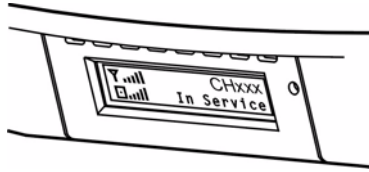

Figure 3.5: Displayed Signal Strength
3. Hold the CU in the position it is to be mounted. In an ideal application, the display on the CU will show 5 bars. If the display is not showing 5 bars and there are alternate possible mounting locations, move the CU to the alternate locations and check the display. Place the CU in the location showing maximum number of bars (see Figure 3.5: “Displayed Signal Strength”). In the event the number of bars is not changing, which is very possible, choose a location that is most convenient.